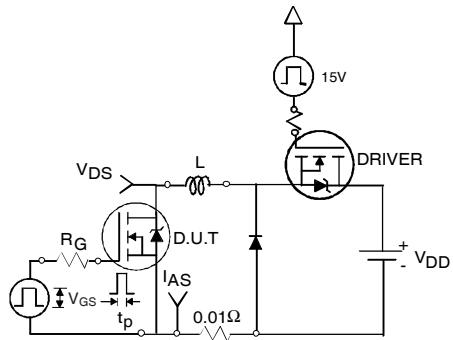

Fig 12a. Unclamped Inductive Test Circuit
- ④ Pulse width $\leq 400\mu\text{s}$; duty cycle $\leq 2\%$.
⑤ $C_{\text{oss eff.}}$ is a fixed capacitance that gives the same charging time as C_{oss} while V_{DS} is rising from 0 to 80% V_{DSS} .
⑥ Limited by $T_{J\text{max}}$, see Fig.12a, 12b, 15, 16 for typical repetitive avalanche performance.
3. Equation below based on circuit and waveforms shown in Figures 12a, 12b.